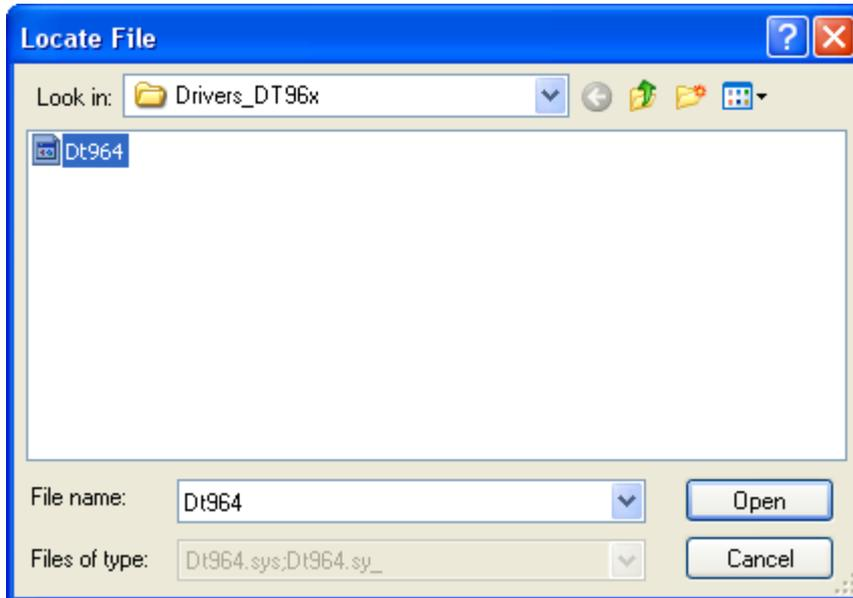

Fig.11 Confirmation of Dt964R.sys file selection on the USB flash drive
- In the next window **Locate file** find this file in the Drivers DT96x folder on the USB flash drive, select it and click (Fig.11)